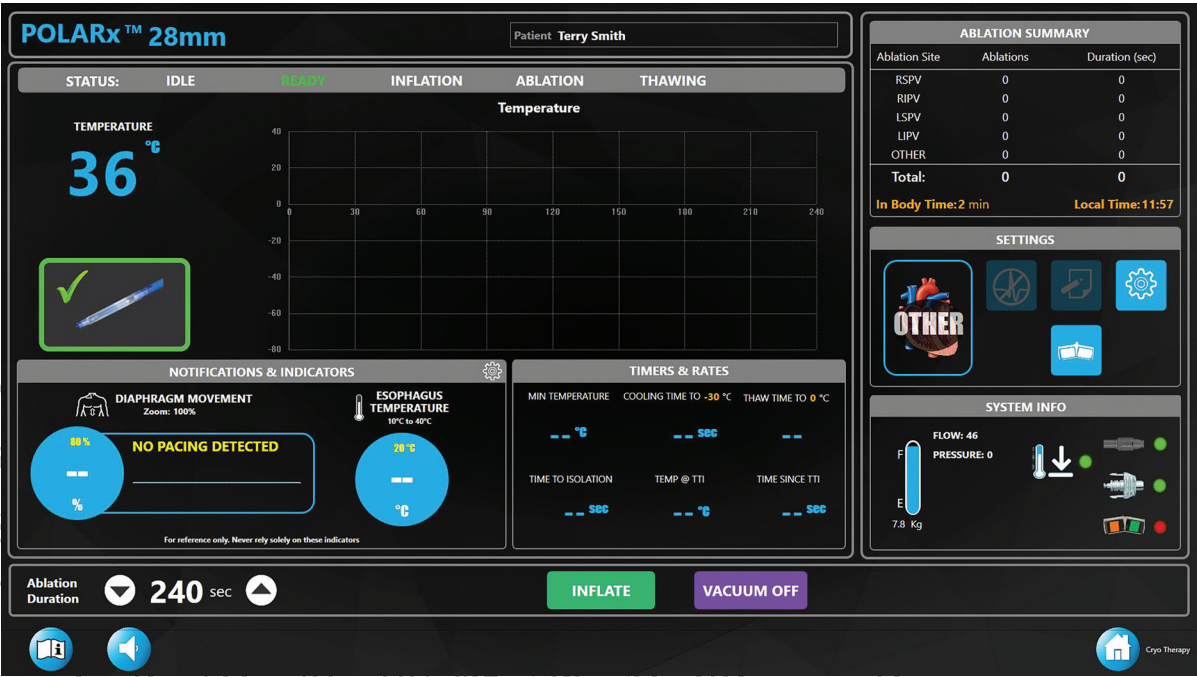

Figure 6. Therapy screen-READY state
- The system status should indicate **READY** and the **INFLATE** button on the Therapy screen should appear (Figure 6). In addition, the START pushbutton on the SMARTFREEZE Console front panel and the indicator on the Remote Control, if used, should be illuminated green.